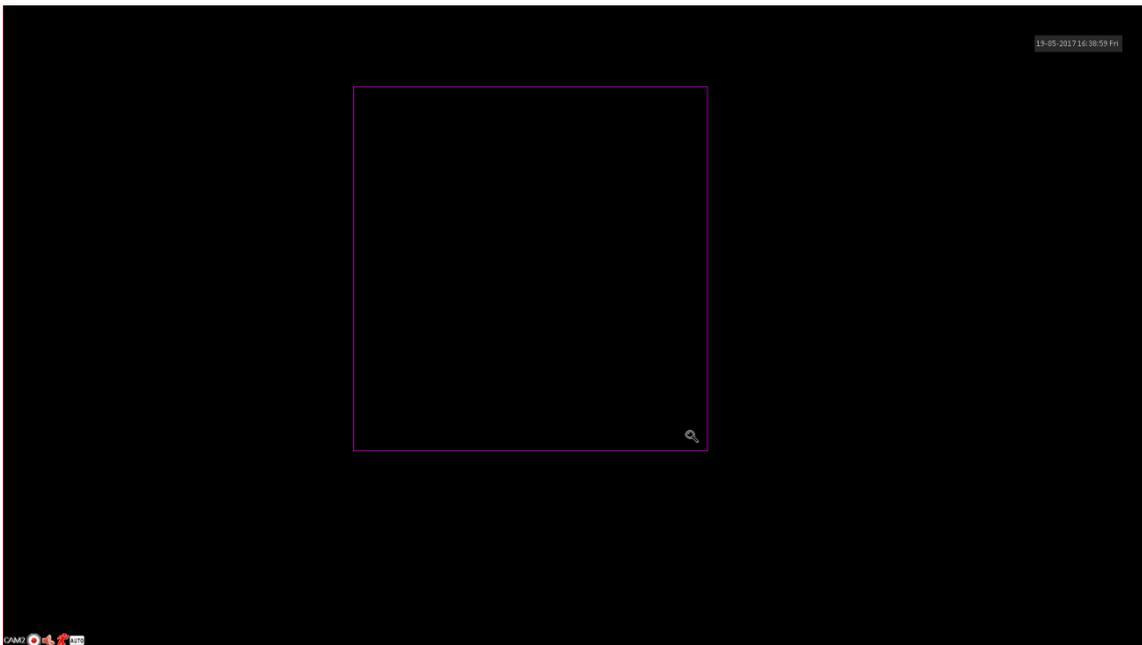

Figure 3.21
- **Digital Zoom** - It is to zoom in specified zone of current channel. Please drag mouse with left click to select a zone and then click in selected zone. user can view an interface show as Figure 3.21